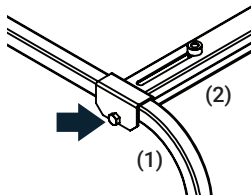

Fig. 3
3. Attach item (2) Mounting Brackets to item (1) U-Hoops using hardware in places based on typical hardware arrangement at the location shown in figure 3. Adjust the mounting rail locations to match the bolt spacing of the equipment.